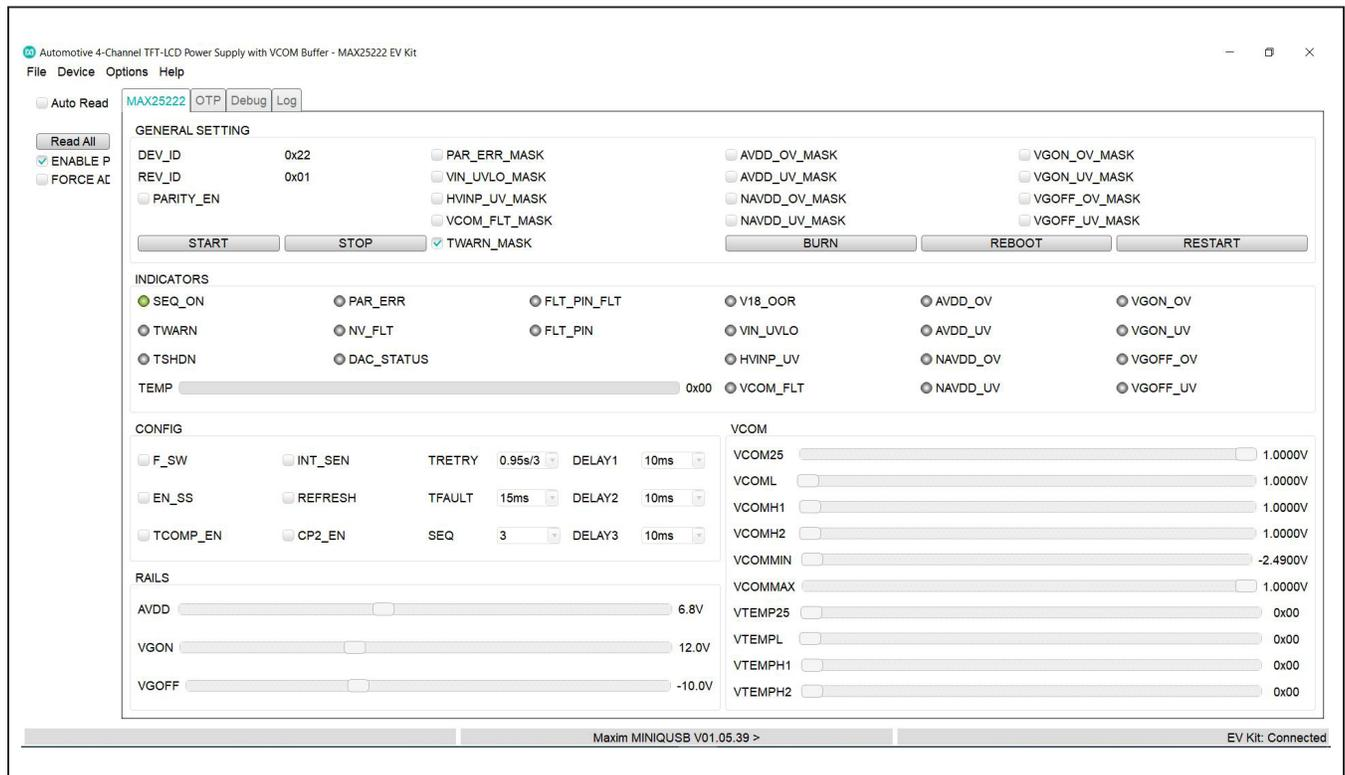

Figure 1. MAX25222 Evaluation Kit Software (GUI)
- From the EV kit software toolbar, select **Device** → **Scan for Address** Verify the ENABLE PIN in the GUI is enabled. The GUI scans the I2C bus for available slave addresses on the bus and selects the first one (in this case, the MAX25222 I2C address with J5 settings: 42H). Press **OK** once the MAX25222/MAX25222C I2C address has been found. Figure 1, is a screen capture of MAX25222 evaluation kit software (GUI).